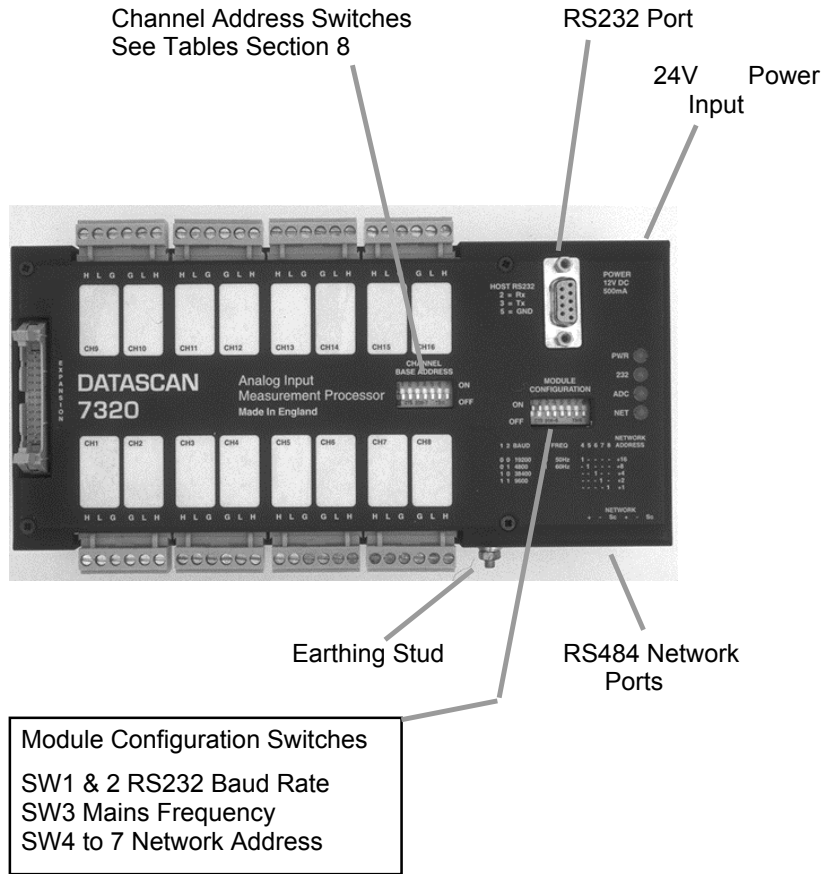

FIGURE 2.4 7300 SERIES INSTALLATION DETAILS
**If the network is used, it MUST be terminated at each end using the Datascan Network Terminators ( see Figure 2.4)**